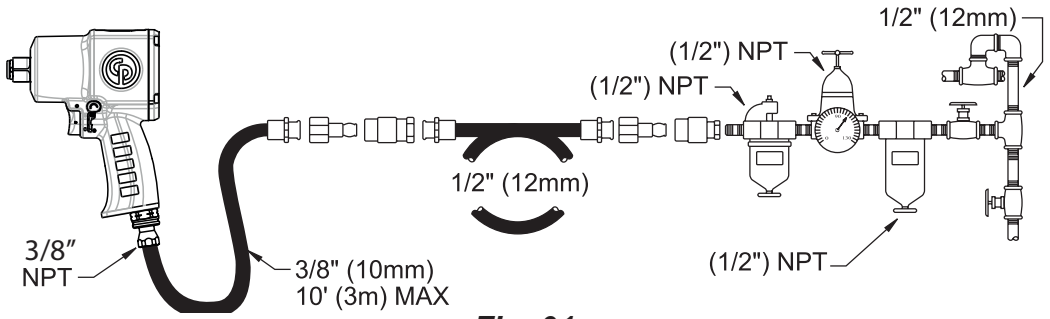
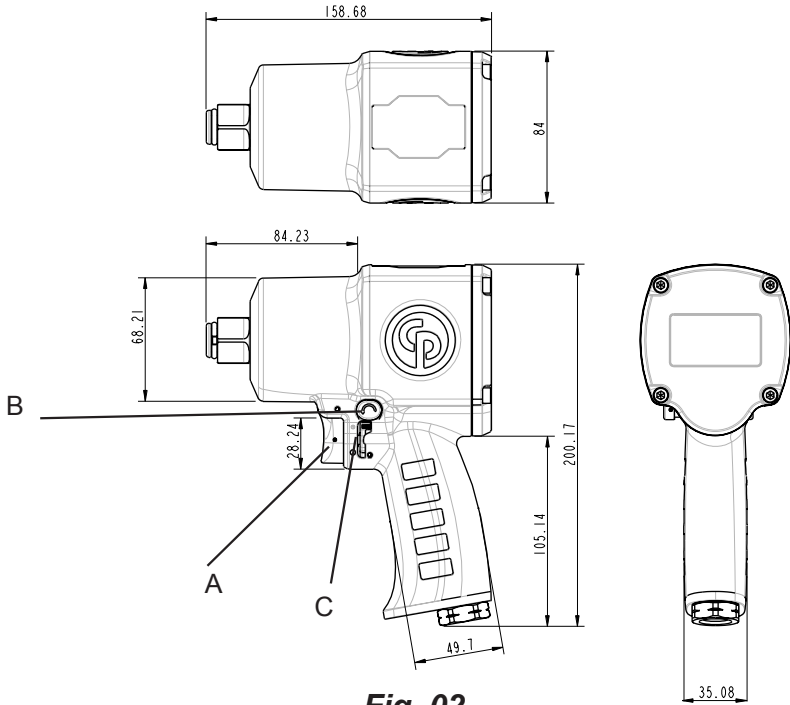

Fig. 01
Fig. 02
- Connect device as shown in Fig. 01 to a clean and dry air supply.
- To start the machine, pull the trigger (A). Machine speed is increase by increasing pressure on the trigger. Release the trigger to stop.
- To switch rotation, turn the switch (B) as shown in Fig. 02.
- Use the reverse switch (B) only when the drive spindle comes to a complete stop. Changing the speed before the drive spindle stops may damage the machine.
- To adjust output power, turn the regulator (C) as shown in Fig. 02.